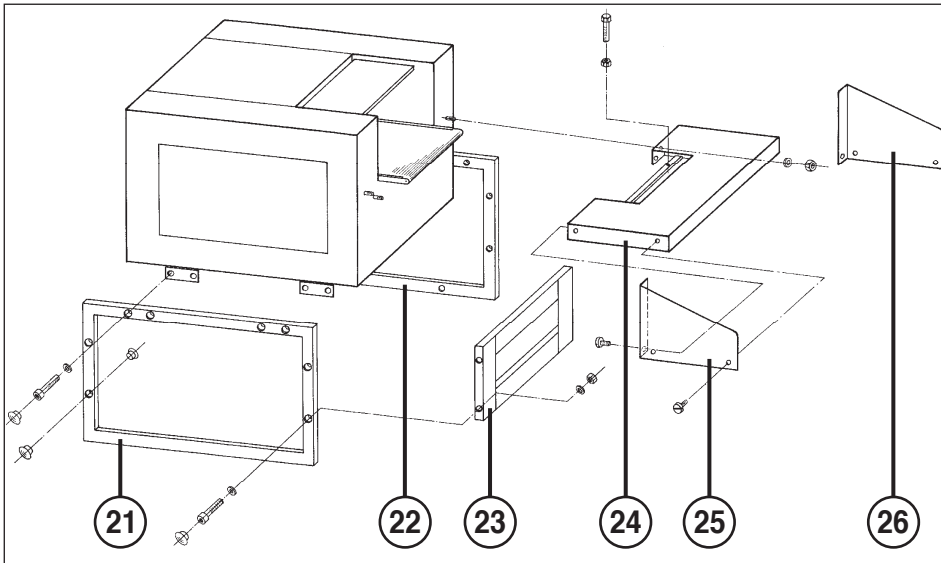

fig. 1
ASSEMBLY OF THE BASE (Fig. 1 and 2):
ASSEMBLY OF THE TABLE (24) (fig. 1):
4. Guide the power cord for the emergency stop bar (14) through the bush at the front of the left housing panel, and through the screwed joint on the bottom of the switch box. Connect the blue flexible cord to terminal 20 and the brown flexible cord to terminal 19.
ASSEMBLY OF THE GUARD PANELS (fig. 1):
- 21 = frame left (fig. 1 und 2)
- 22 = frame right (fig. 1)
- 23 = cross beam (fig.1 und 2)
- 24 = table (fig. 1)
- 25 = guard panel left (fig. 1 und 2)
- 26 = guard panel right (fig. 1)